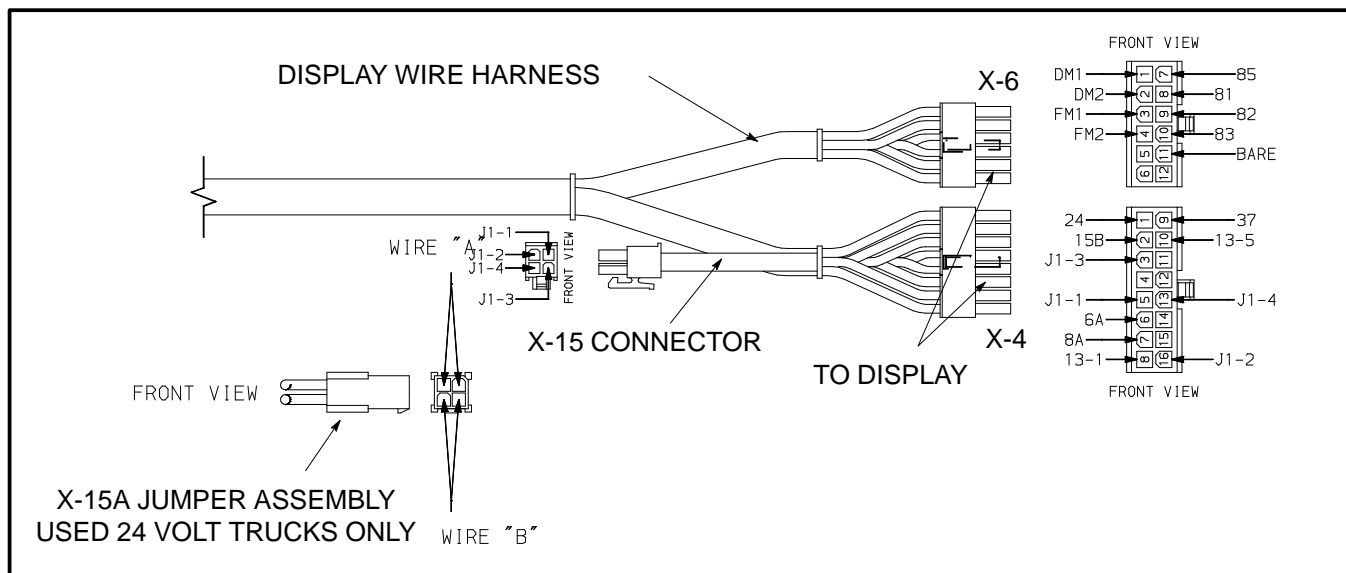

FIGURE 9. CURTIS 1215 DISPLAY PANEL CONNECTIONS AND WIRE LOCATIONS
Check the lift interrupt signal at the connector on the back of the display panel. See FIGURE 9. Wire 85 carries the lift interrupt signal from the display panel to the control card of the motor controller. Normally, this signal is low (less than +5.0 volts) when the bottom red LED is not flashing. When this LED is flashing (Lift Interrupt), the voltage at wire 85 will be high (greater than +10 volts).
If the lift pump will not operate when the bottom red LED is not flashing, you can bypass the lift interrupt function of the display. Connect a jumper wire from battery negative to the wire 85 pin (7) of the X-6 connector shown in FIGURE 9.
Voltage selection (24 or 36 volt battery) is achieved by means of an “X-15A” jumper assembly. The “X-15A” jumper assembly is plugged into the “X-15” connector for 24 volt battery operation only. No jumper is used for 36 volt battery operation. The jumper assembly, when used, is located in the main truck wire harness beneath the display panel. See FIGURE 9.